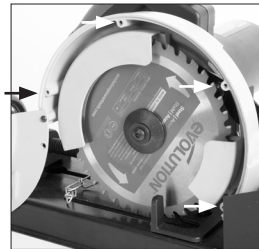

Fig. 2
- Remove the four (4) socket head screws securing the upper blade guard.
- Gently ease the guard outwards and rotate it downward and forward to reveal the machine's arbor. **(Fig. 2)**